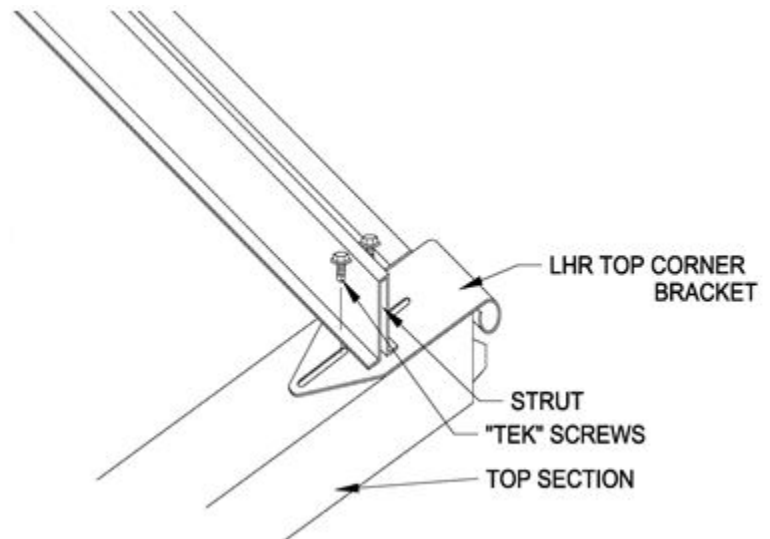

**Figure 1**
- Installation is similar to standard track except the cable is attached to the wrap around bottom corner bracket and rides on the outside of the track instead of the inside. See Figure 1.